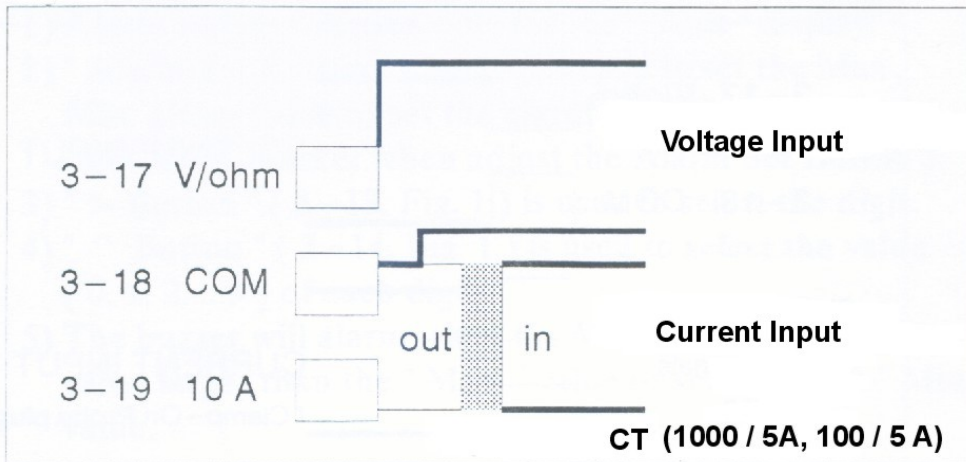

Fig. 3
1. Wire connection as follows, refer (Fig. 3)